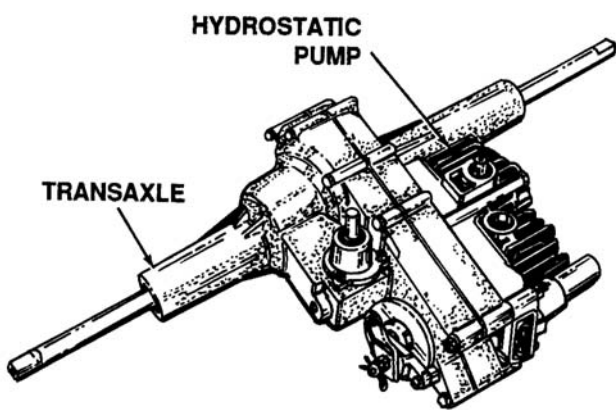

Figure 5-99. Transaxle and Pump
1. Remove transaxle and pump from tractor. See Figure 5-99.